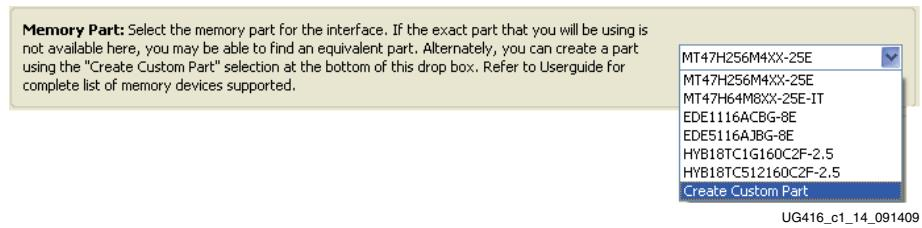
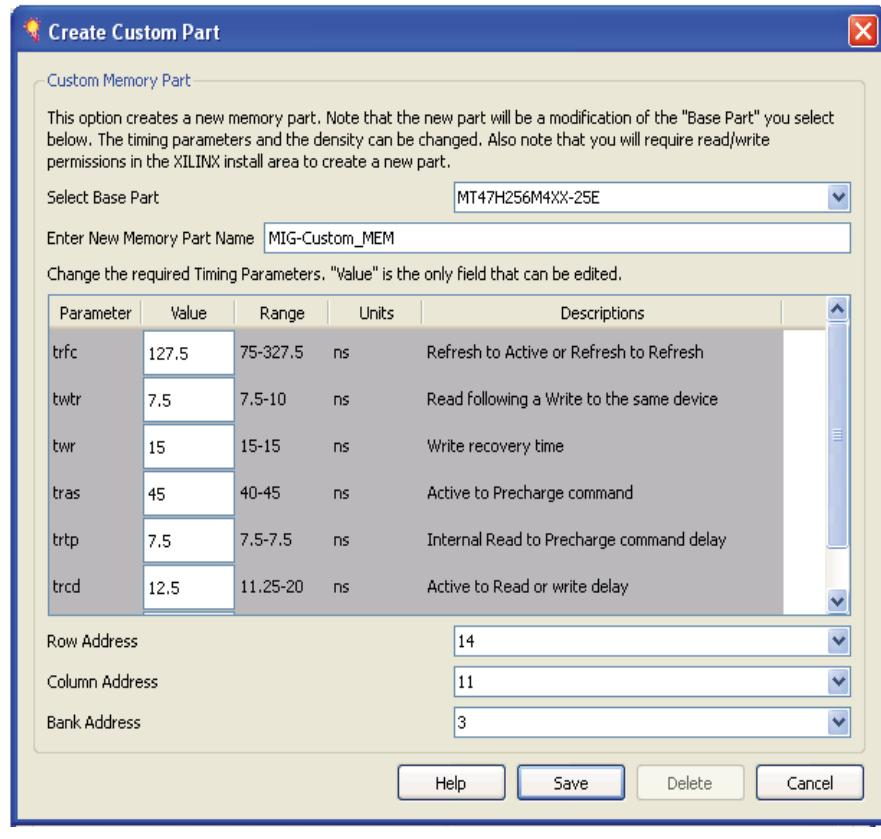

Figure 1-14: Selecting a Memory Device
Figure 1-15: Creating a Custom Memory Device
3. Select the desired Memory Part from the drop-down menu (see Figure 1-14). If the required part or its equivalent is unavailable, a new memory part can be created. To create a custom part, select the **Create Custom Part** option from the list, which causes a new window to appear as shown in Figure 1-15. If not creating a custom part, skip to step 5.